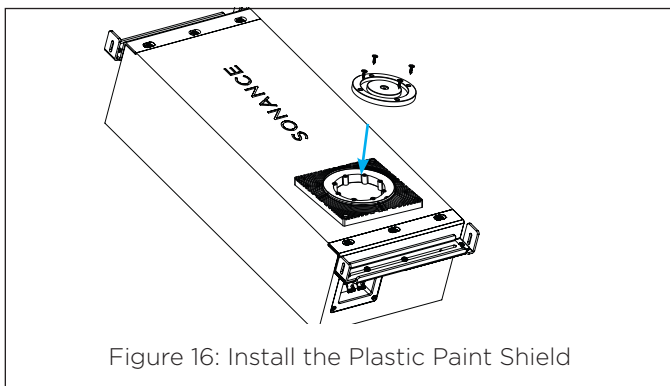

Figure 16: Install the Plastic Paint Shield
- Secure the assembly with screws through two of the inner threaded holes (see Figure 16).